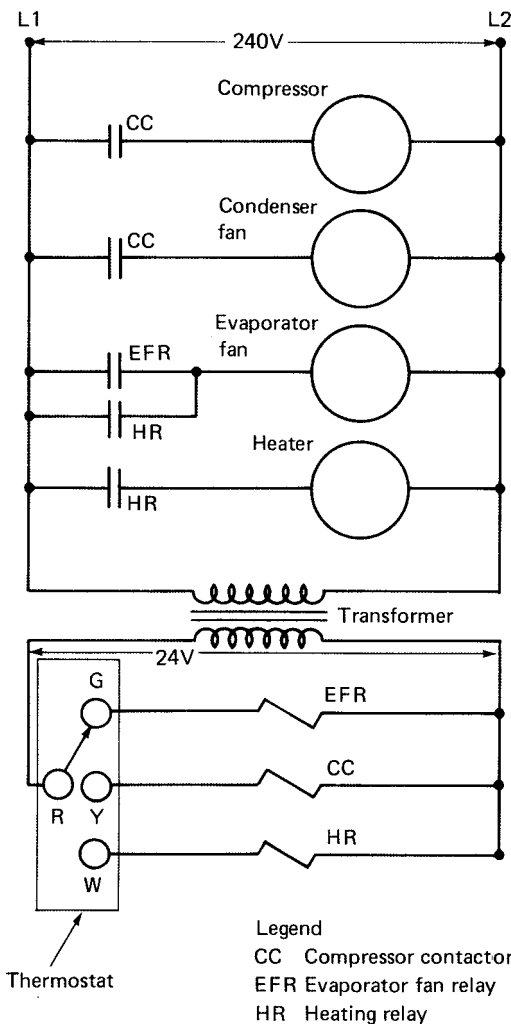

Figure 15-3 Ladder diagram for a heat and cool installation.
devices. There is usually a legend on the side of the diagram to tell you, for example, that CC means compressor contactor, EFR means evaporator fan relay, and HR means heating relay (see Fig. 15-3).
Take a look at the thermostat in Fig. 15-3. The location of the switch determines whether the evaporator fan relay coil, the compressor contactor coil, or the heating relay coil is energized. Once the coil of the EFR is energized by having the thermostat turned to make contact with the desired point (G), it closes the points in the relay and the evaporator fan motor starts to move. This means that the low voltage (24 volts) has energized the relay. The relay energizes and closes the EFR contacts located in the high-voltage (240 volts) circuit. If the thermostat is turned to W or the heating position, it will cause the heating relay coil to be energized when the thermostat switch closes and demands